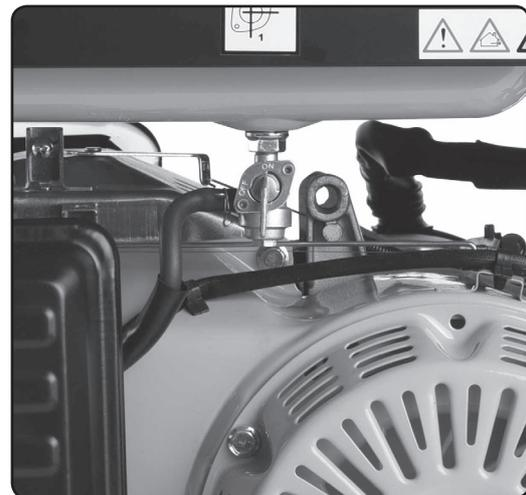

Fig. 15
**8. Turn the fuel valve to the "ON" position (see also the pictogram on the frame of the generator), see fig. 15.**